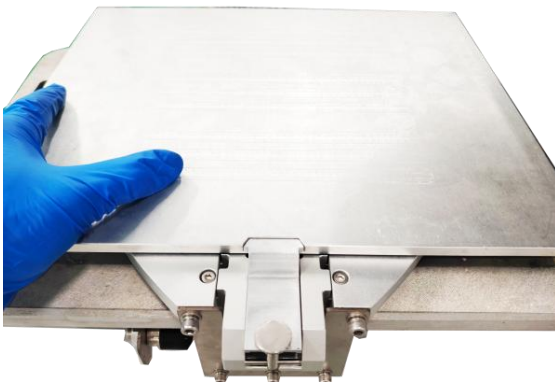

fig. 3-1 Silver color Print Build Plate
1. Ensure the print platform is securely and steadily mounted on the X-axis platform. See figure 3-1. Refer to **Section 2.5 Remove and Install Print Build Plate**.